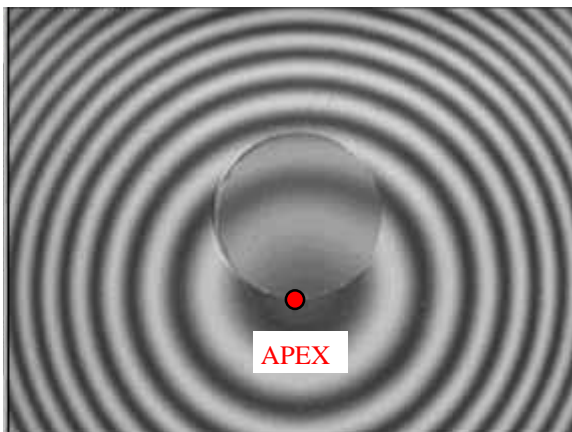

Figure 3 - Connector at 6 o'clock
4. Repeat for the 6 and 9 o'clock positions (see figures 3 and 4). Providing that the magnitude of the apex offset is the same size, relative to the center of the fiber, then calibration verification has been established.